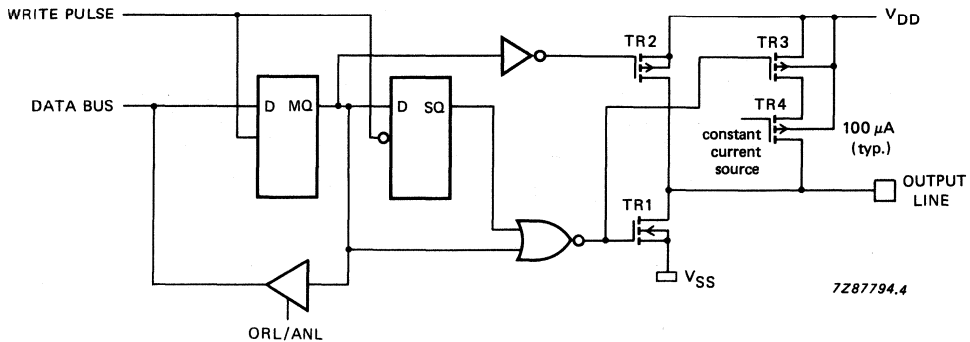

Fig. 12 Push-pull output.
- Option 3 —PUSH-PULL OUTPUT; drive capability of the output will be 1.5 mA (typ.) at $V_{DD} = 3 \text{ V}$ in both polarities. To avoid a large current flowing through the output transistors during the input mode, these push-pull pins must be used only as outputs (Fig. 12).